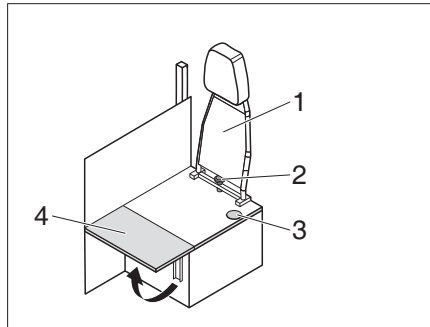

Fig. 204 Conversion drive - living mode
- Unscrew the star screw (Fig. 204,2) and remove the backrest (Fig. 204,1) towards the top.
- Fold up the bench seat extension (Fig. 204,4).
- ▷ When converting from living to travel mode proceed in the reverse order. Make sure that the safety belt is lead through the opening (Fig. 204,3).